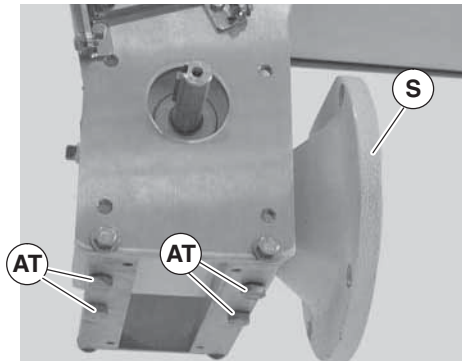

Figure 40
- Remove four (4) gear reducer mounting screws (Figure 40, item AT). Remove gear reducer (S).